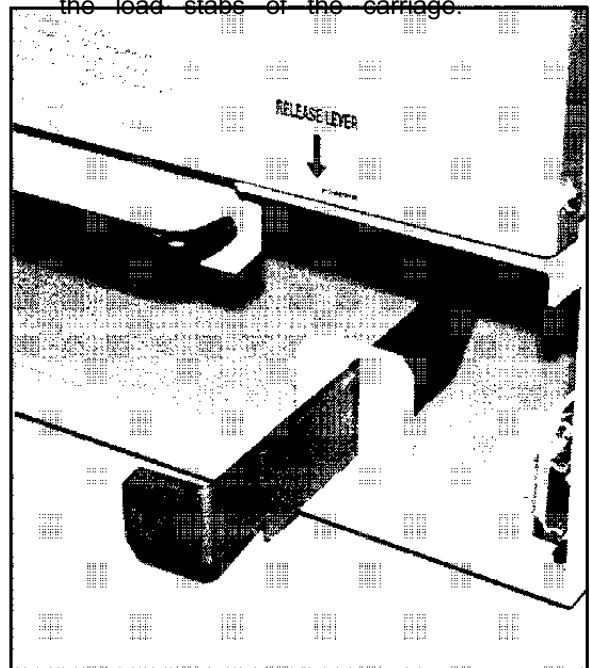

Fig. 46 Release Lever Disengaged
- 1) Lift and pull the release lever out all the way, then pull out the service drawer (Fig. 46).